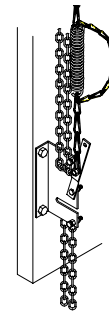

Figure 24 Engaged position
3. To return to electrical operation merely pull lever upwards to the "engaged" position (Figure 24).